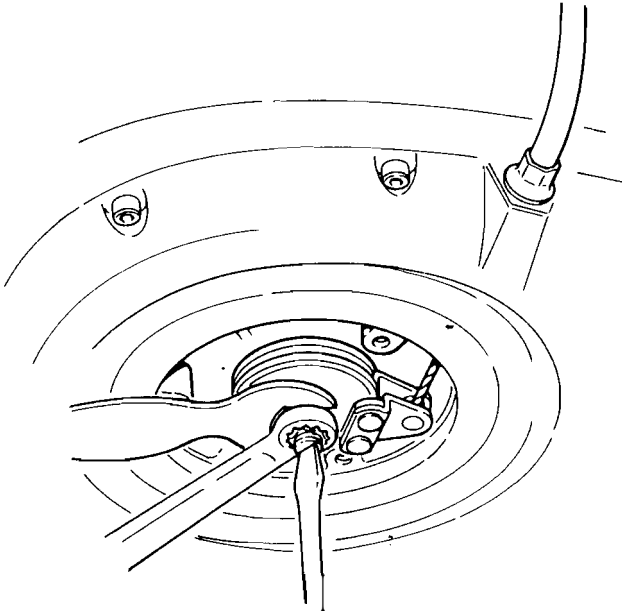

Figure 57 *The Clutch Lift Mechanism*
7. It is now necessary to release the clutch mechanism by releasing the pull rod locknuts (see fig 57) and detaching the outer plate. Remember to collect the three 8mm balls as the thrust plate is released.
Apply grease to the mechanism back plate and place the three 8mm balls into their position. Carefully replace the outer thrust plate checking the cable and trunnion remain seated correctly. Refit the two locknuts and proceed to adjust the clutch (see fig 57).
5. Tighten the inner ring nut whilst holding the stud, then tighten the lock nut whilst holding the inner nut. (See Fig. 57)